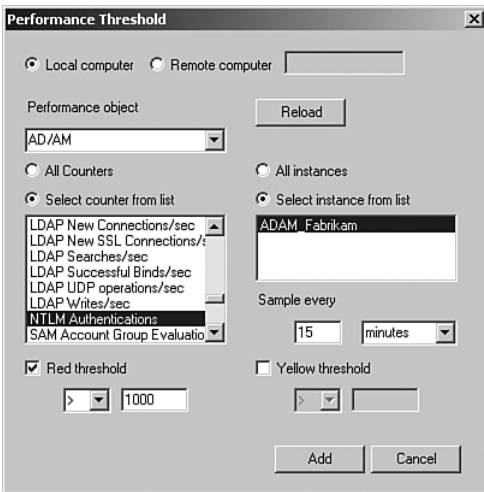

FIGURE 20.6 MOM 2005 Management Pack Wizard Performance Threshold Monitoring.
5. At the Performance Threshold panel, add the AD/AM NTLM Authentication performance object specifying a red threshold greater than 1000, as shown in Figure 20.6. We are specifying here that if more than 1,000 NTLM authentications per second occur within the Fabrikam ADAM, we will show the state as red. You would want to adjust this based on how many users are actually authenticating to the Fabrikam ADAM.